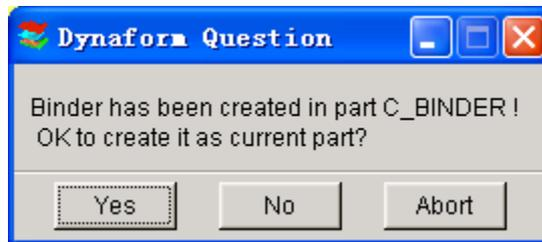

Figure 6.2.6 DYNAFORM QUESTION window
5. If the binder has already been created in C_BINDER part, DYNAFORM will display a QUESTION window as in Figure 6.2.6.